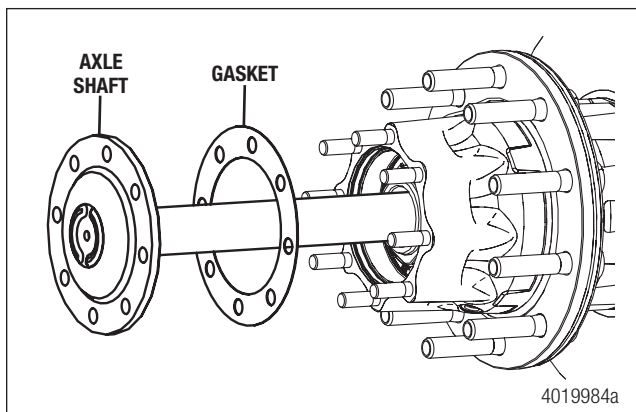

Figure 5
- e. Remove the axle shaft from the hub and axle housing. Label the location of the axle shafts (left or right side) so they can be reinstalled in the same hub during reassembly. Store the axle shafts in a clean, protected location that will keep them free of dirt and other contaminants. Figure 5.